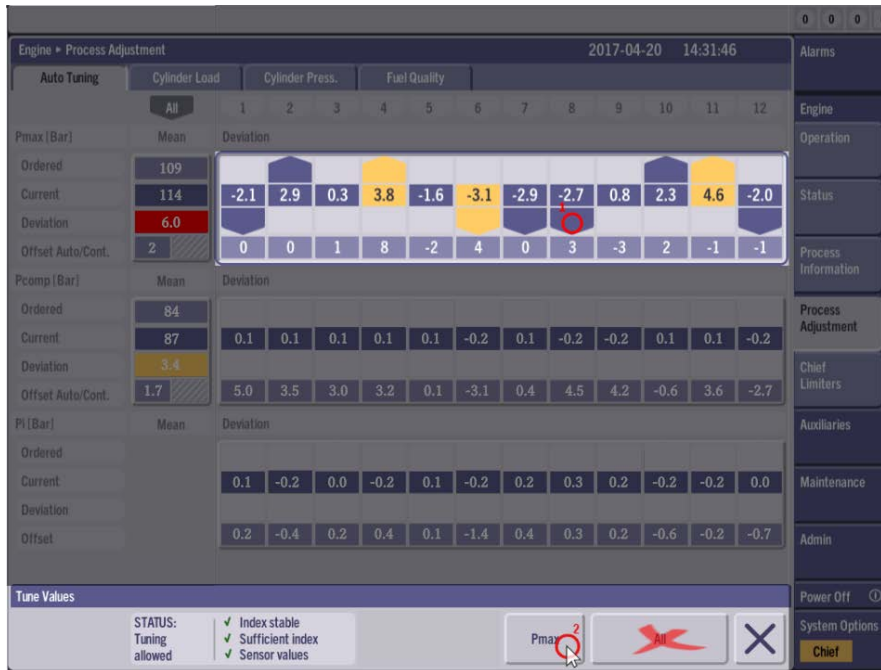

Figure 15 - Balancing of P_{Max}
4. Balancing of P_{max} (Figure 15)